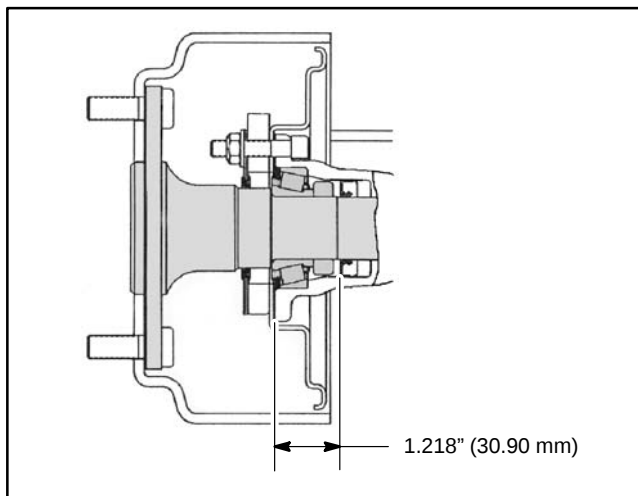

Figure 16
4. Prepare a new inner shaft seal for assembly. Put a light coat of No. 1 Permatex (or equivalent) on the outside diameter (surface that contacts the axle housing), and a thin film of oil on the inside diameter (surface that contacts the axle shaft). Install the new seal to a depth of 1.218 in. (30.90 mm) into the axle housing (Fig. 16).